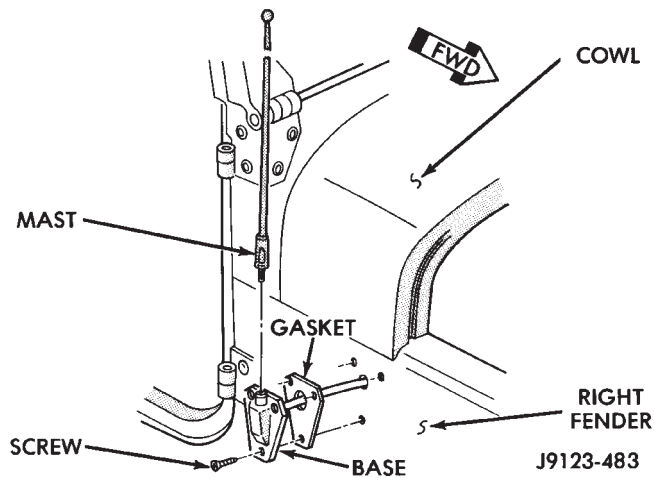

Fig. 29 Radio Antenna
- remove the radio antenna (if equipped) from the fender outer panel (Figs. 29 and 30).